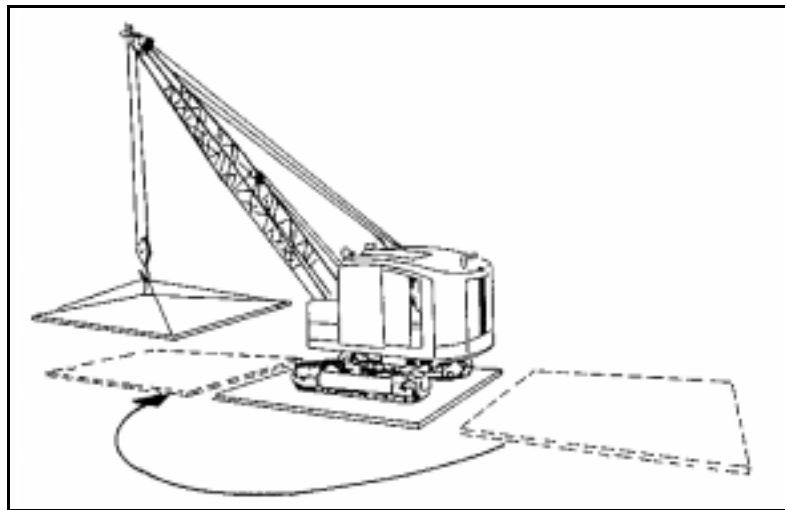

Figure 7-4. Timber Mats Supporting a Crawler Crane on Soft Material
- **Terrain capability.** Crawler cranes are designed to operate on level ground. A 3° out-of-level condition can result in a 30 percent loss in hoisting capacity. Crawler cranes' low ground-bearing pressure enables them to travel over soft ground. In locations where the ground is extremely soft or unstable, use timber mats to provide a firm footing (*Figure 7-4*). When not handling a load, the machine can climb slight grades.